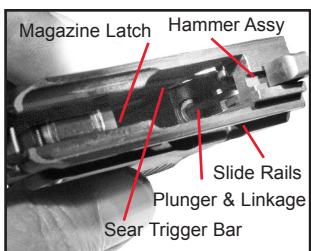

Figure 28
5. Apply a light coating of oil to the inside of the Frame Assembly. Include between the Sear Trigger Bar and Grip, the Magazine Latch and the Slide Rails. See Figure 28.